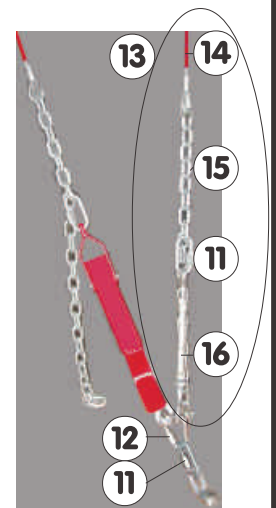

Figure 25
- 2 - Secure the cabling of the Delta links (12) to the anchor bolts provided on the apparatus (see Fig. 25): With the frame held by the cables (A), hook the cables (13) to the opposite side (B).